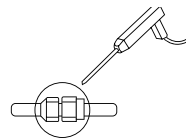

Fig. 4-3
- 4.4 Leakage checking of refrigerant at the coupling by gas leak detector or soapsuds, as shown in Fig. 4-3.